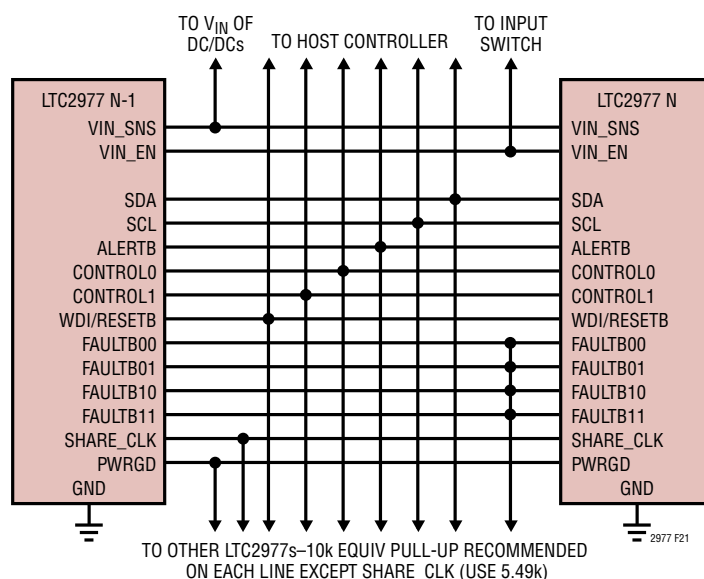
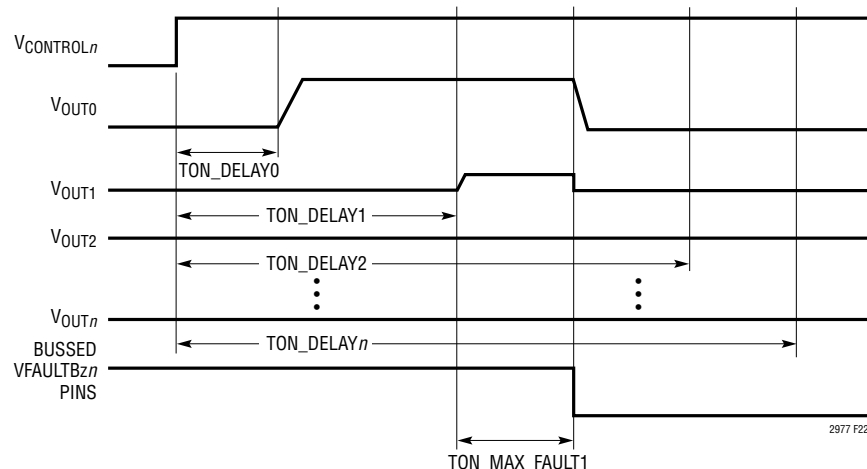

Figure 21. Typical Connections Between Multiple LTC2977s
Figure 22. Aborted On Sequence Due to Channel 1 Short
Figure 21 shows how to interconnect the pins in a typical multi-LTC2977 array.
- The FAULTB $_n$  lines can be connected together to create fault dependencies. Figure 21 shows a configuration where a fault on any FAULTB $_n$  will pull all others low. This is useful for arrays where it is desired to abort a start-up sequence in the event any channel does not come up (see Figure 22).
- PWRGD reflects the status of the outputs that are mapped to it by the MFR\_PWRGD\_EN command. Figure 21 shows all the PWRGD pins connected together, but any combination may be used.